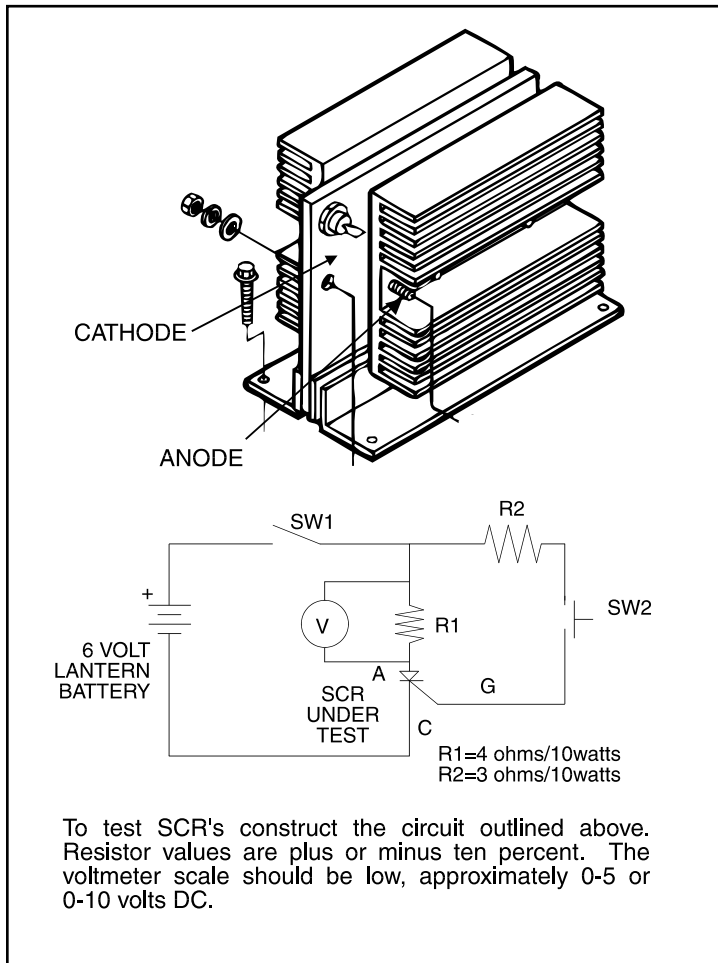

FIGURE F.7 - SCR Tester Circuit and SCR connections.
6. Construct the circuit shown in Figure F.7. One 6-volt lantern battery can be used. R1 and R2 resistor values are $\pm 10\%$. Set voltmeter scale low, at approximately 0-5 volts or 5-10 volts.
- a. Test the voltage level of the battery. Short leads (A) and (C). Close switch SW-1. Battery voltage should be 4.5 volts or higher. If lower, replace the battery.
7. Connect the Tester to the SCR 1 as shown in Figure F.7.
- a. Connect Tester lead (A) to the anode.
- b. Connect Tester lead (C) to the cathode.
- c. Connect Tester lead (G) to the gate.
13. Reconnect the Tester leads. See Figure F.7.
- a. Connect Tester lead (A) to the cathode.
- b. Connect Tester lead (C) to the anode.
- c. Disconnect Test lead (G) from the gate.